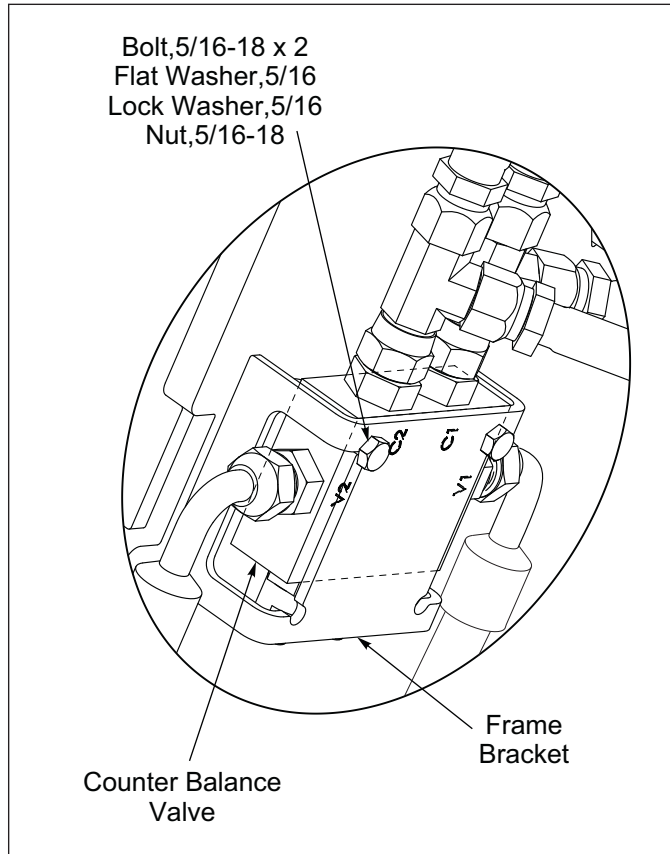

Figure 2-28: Counter Balance Valve
1. Attach the Counter Balance Valve to the inside frame bracket with 5/16-18 x 2 Bolt, Flat Washer, Lockwasher and Nut, **See Figures 2-28 and 2-33.**